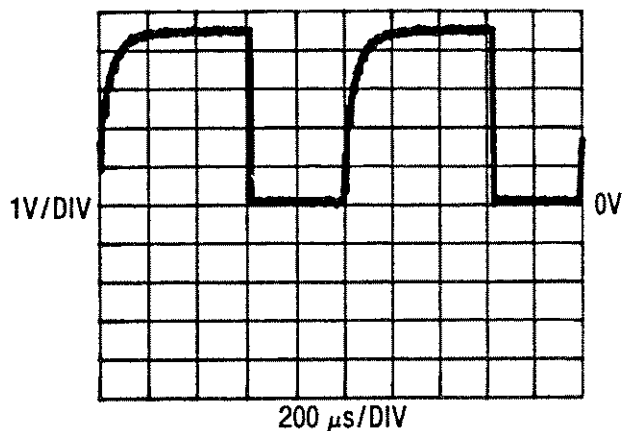

Figure 8-55. +5 Volt Display Clock
A9TP3 (+5V Display) See Figure 8-55
3. Compare the signal at A9TP1 (CLK) with Figure 8-55. If the signal is incorrect, continue troubleshooting on Service Sheet 3. If the signal is correct, replace A8U1.